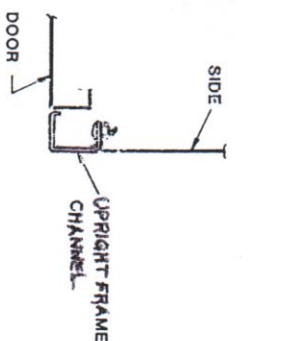

FIGURE 1.3
- 1.5 WITH THE DOOR AND FRAME LAYING FLAT, LOWER DOOR AND FRAME ONTO ASSEMBLED CABINET BODY MAKING SURE TOP OF FRAME IS ON THE OUTSIDE OF TOP. CAREFULLY OPEN RIGHT HAND DOOR AND HOLD UP TO PREVENT DAMAGE. LINE UP THE HOLES IN THE FRAME AND SIDE AND BOLT TOGETHER. (FIG. 1.3) HAND TIGHTEN ONLY.